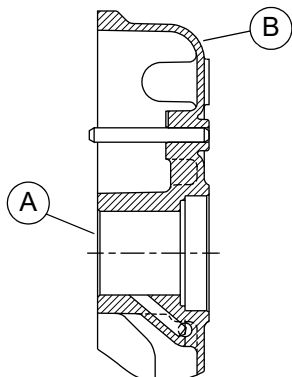

Figure 11-7. Bearing Bore in Crankcase Cover
2. See Figure 11-7. Inspect crankshaft bearing bore (A) in crankcase cover (B) for damage and wear.